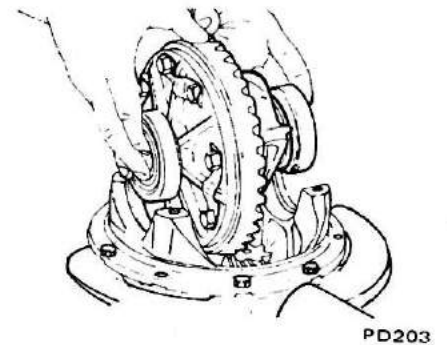

Fig. PD-8 Removing differential case assembly
1. Put match marks on side bearing caps and carrier, and remove side bearing caps and take out differential case assembly. See Figure PD-8.